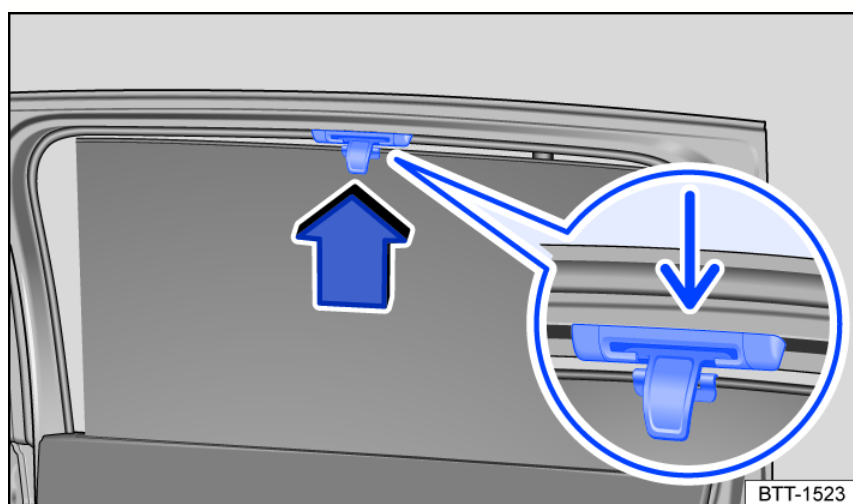

Fig. 101 In the right rear window: sunshade.
1. Pull the sunshade all the way upward by the handle in the direction of the arrow *fig. 101* (enlarged section).
2. Secure the rod with both eyelets in its holder. Check that the extended sunshade is securely attached in the holder *fig. 101* (smaller arrow).